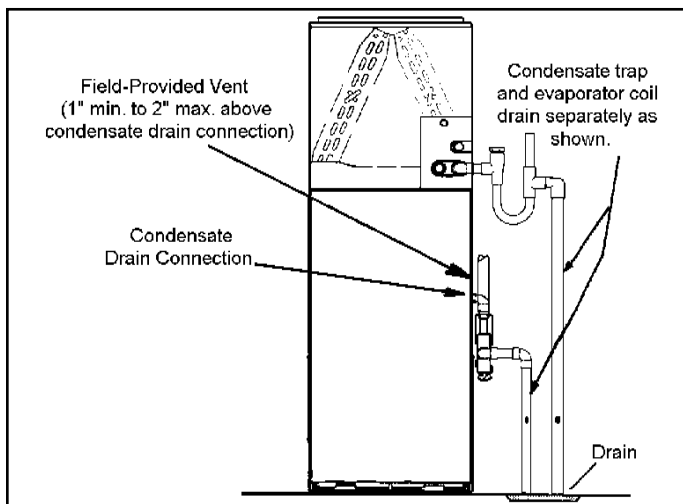

Figure 37. Evaporator Coil Using A Separate Drain
5. Figure 36 and Figure 37 show the furnace and evaporator coil using a separate drain. If necessary, the condensate line from the furnace and evaporator coil can drain together. See Figure 38 and Figure 39.